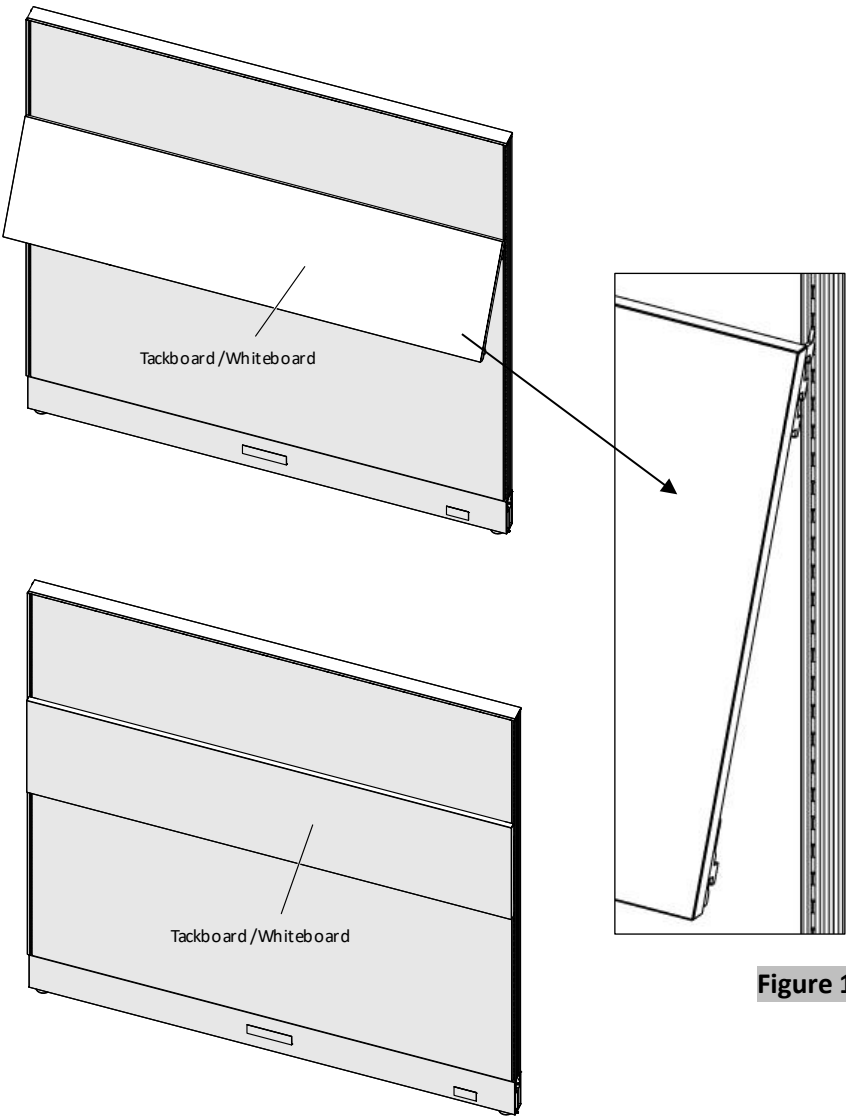

Figure 1
- 2. Place the upper hooks at their desired location into the slotted frame channel; lower the tackboard/whiteboard and place the other hooks then release them down and it will be engaged, (Figure 1).